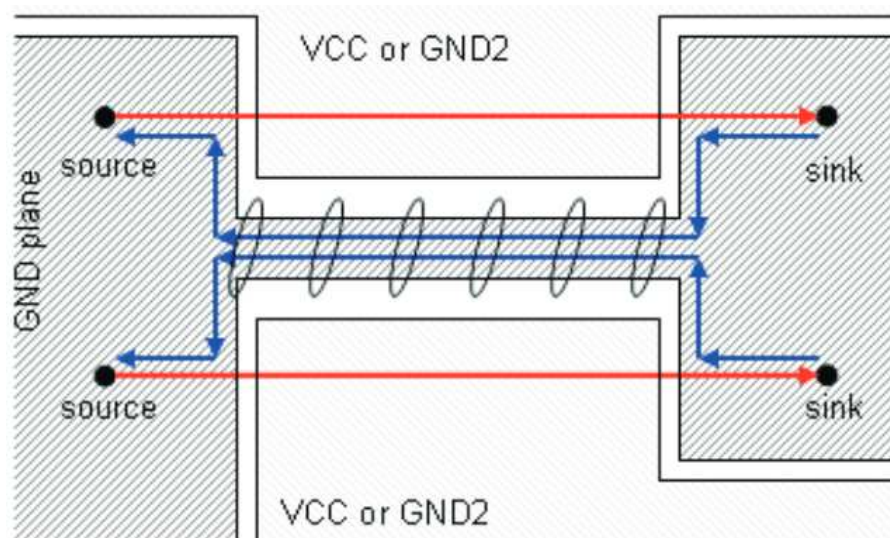

Figure 23. Crosstalk Induced by the Return Current Path
- With a proper signal routing, crosstalk also can arise in the return current path due to discontinuities in the ground plane. Always take care of the return current (see Figure 23).